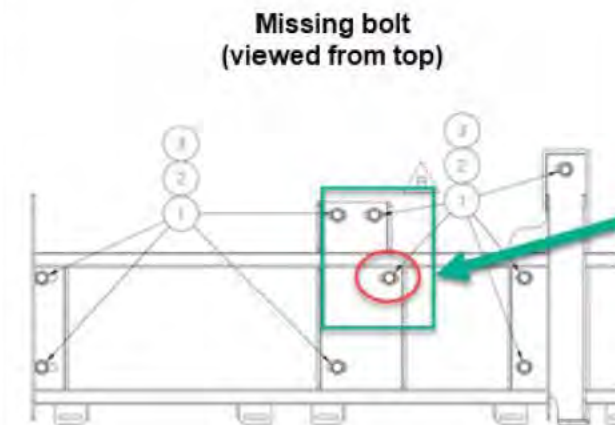

Figure2
2. Locate the slot with a missing bolt in the rear seat base structure (red circle in Figure2).